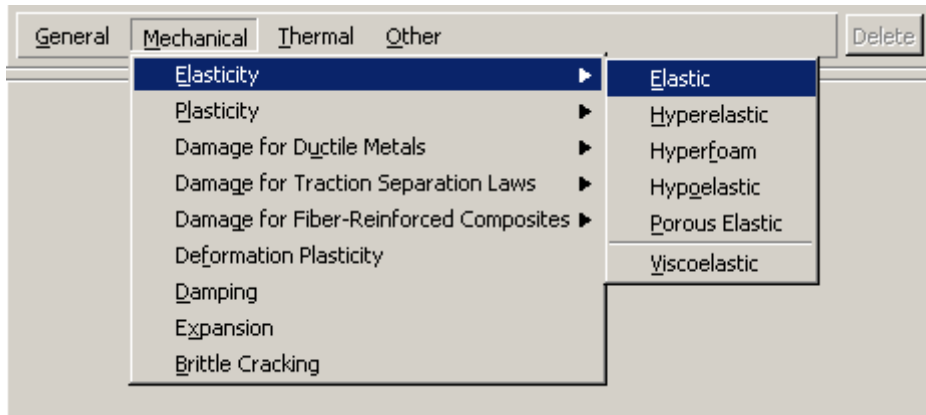

Figure W1–8 Pull–down menu.
2. From the material editor's menu bar, select **Mechanical**→**Elasticity**→**Elastic**, as shown in Figure W1–8.